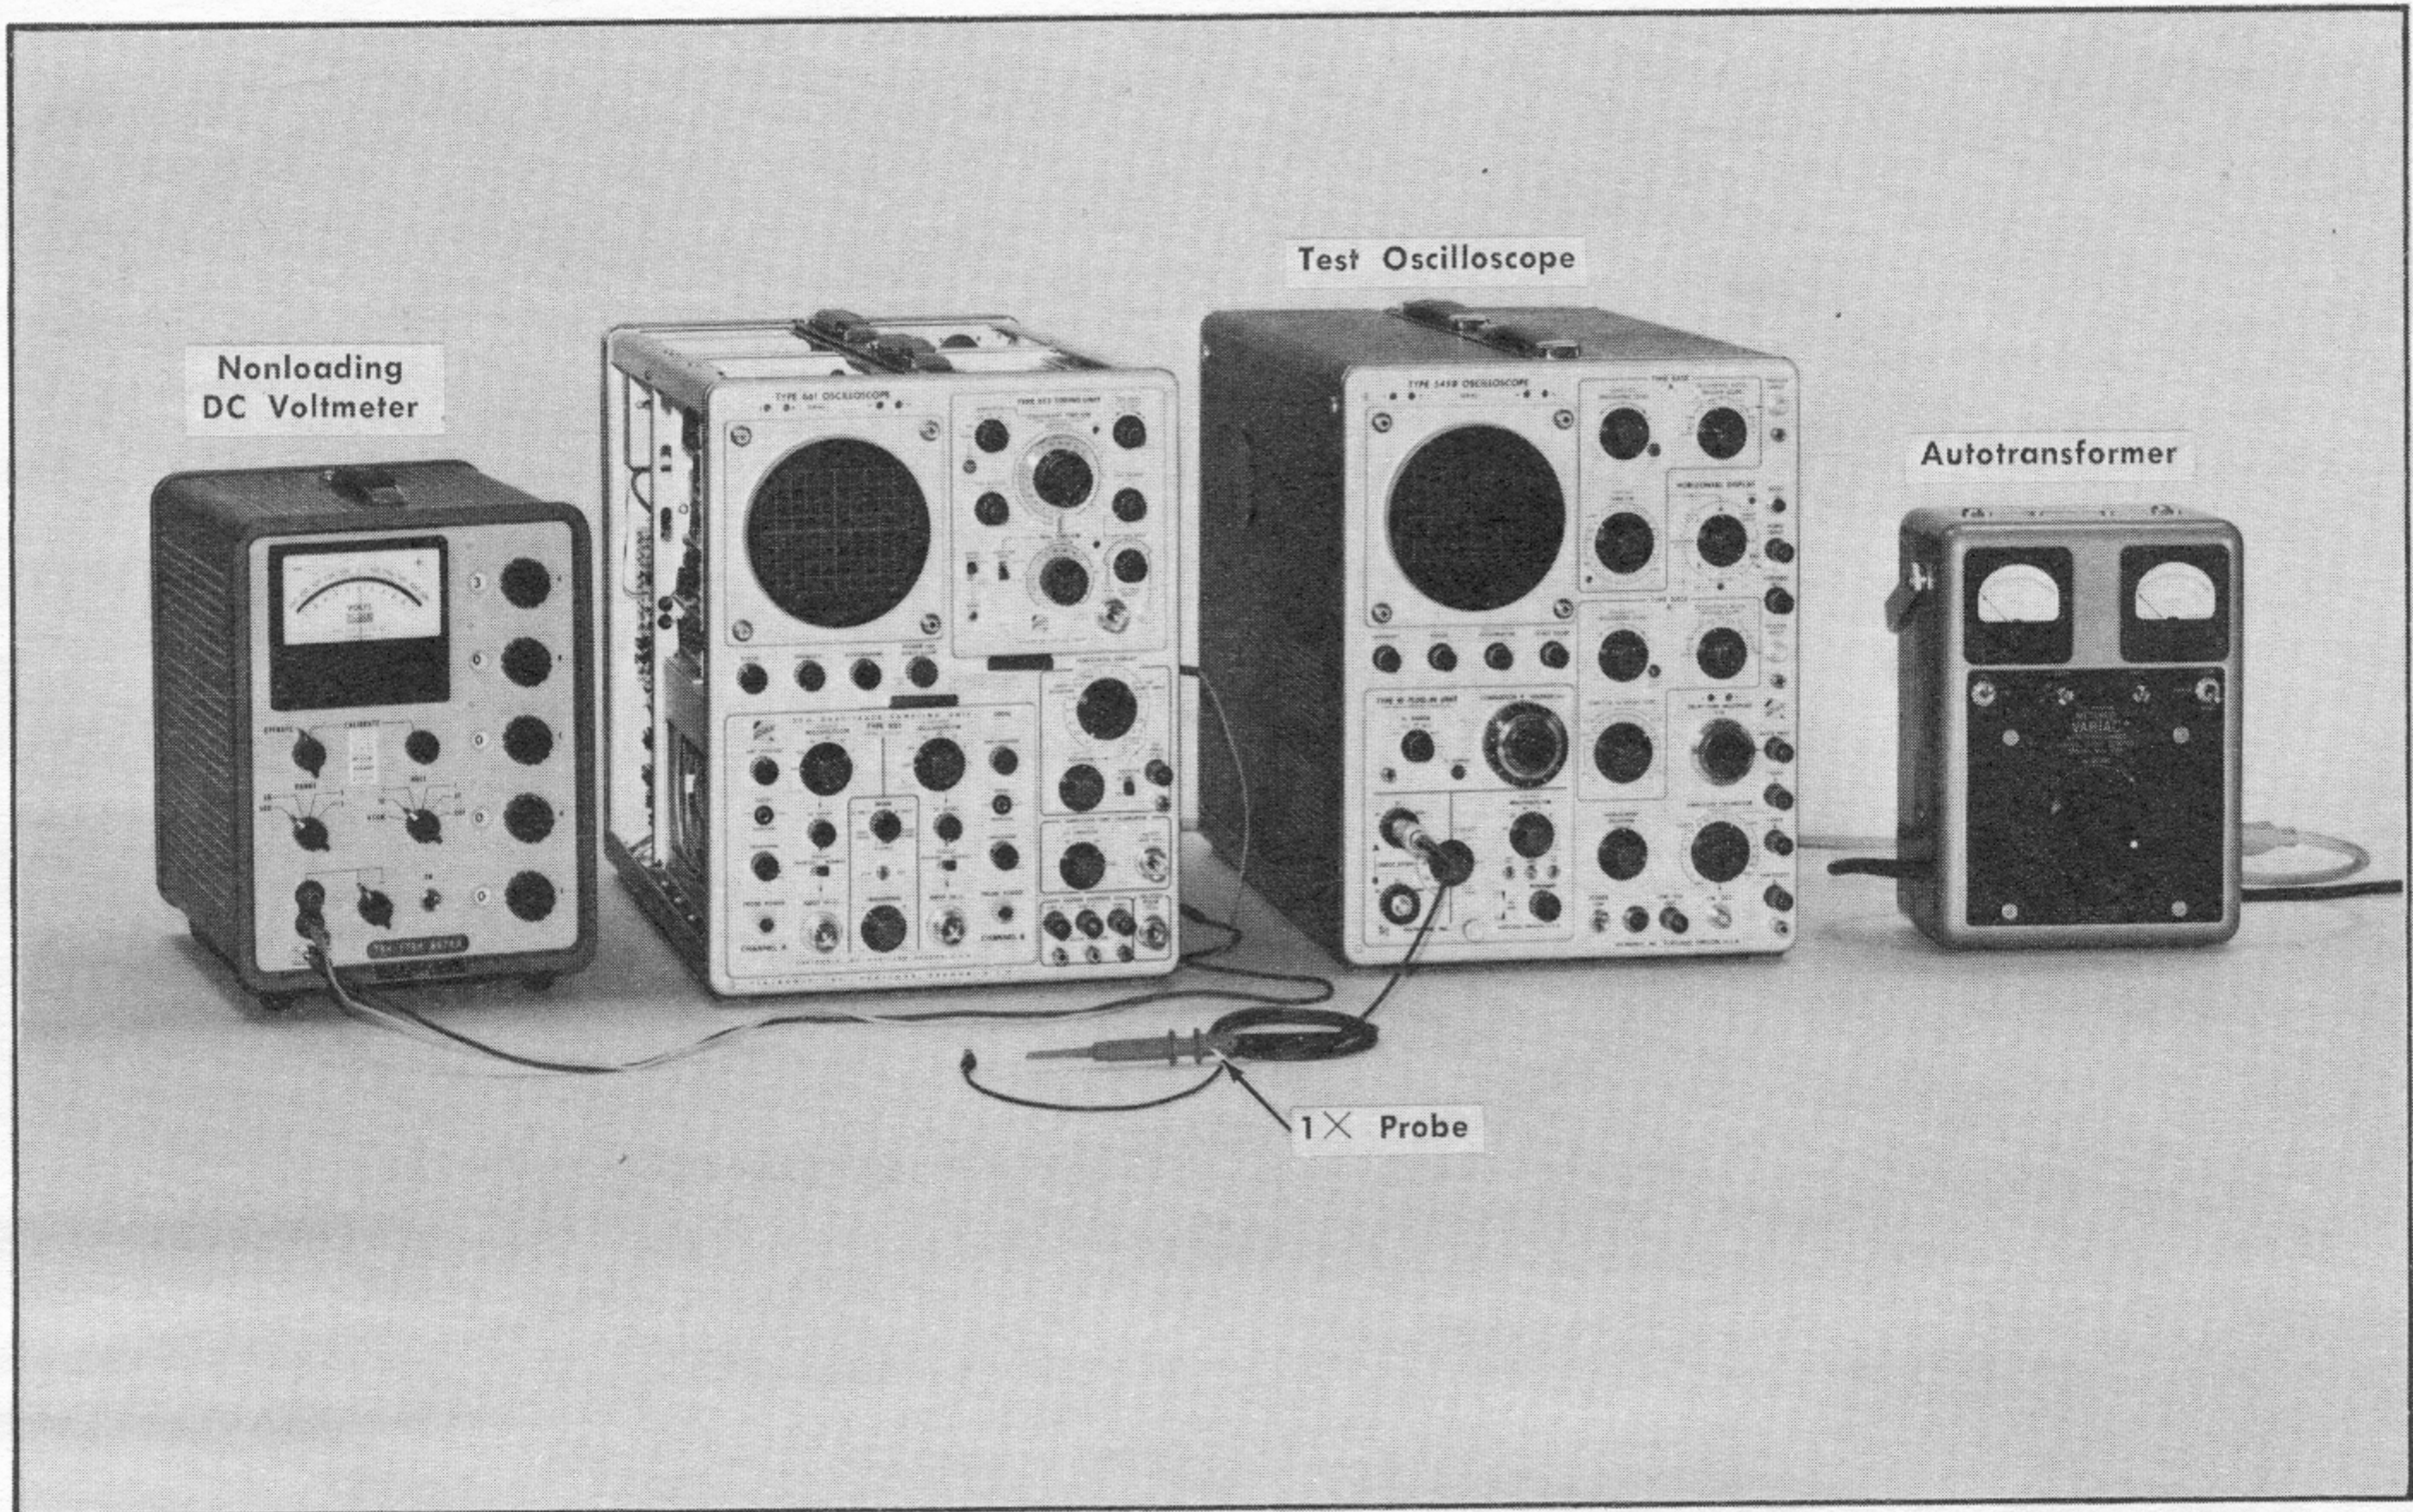
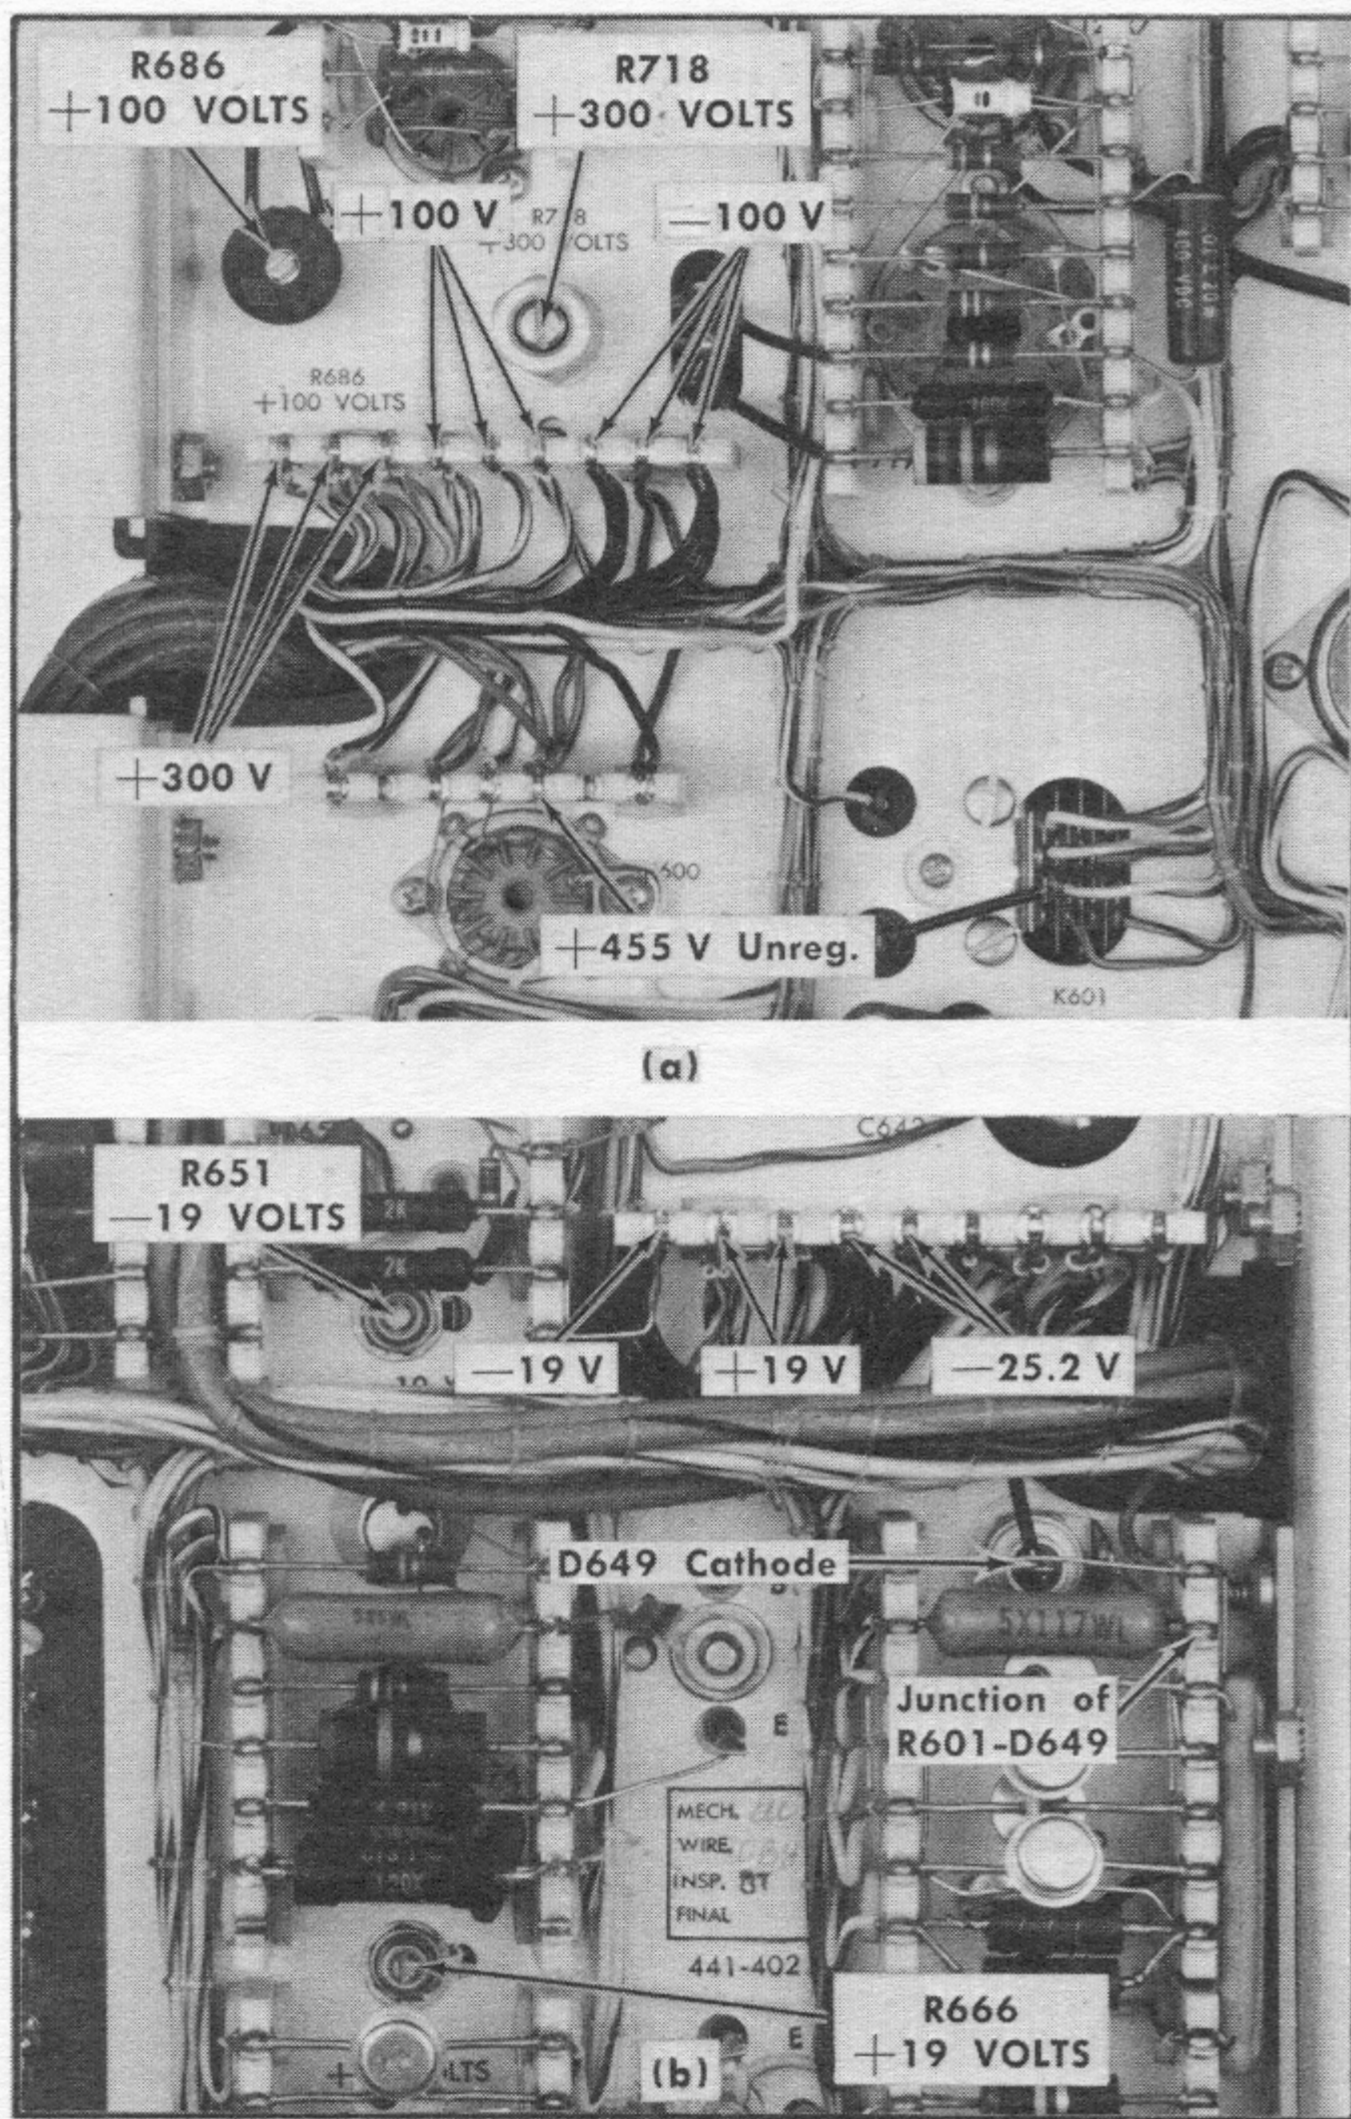

Fig. 6-3. Test equipment for checking the power supplies (steps 1 through 8).
Fig. 6-4. Power supply test points. (A) Right side of oscilloscope; (B) left side of oscilloscope.
1. Check or Adjust +300-Volt Power Supply ①
a. Use the equipment setup as shown in Fig. 6-3, and connect the nonloading DC voltmeter between a +300-volt test point and ground (right side of the oscilloscope). All power supply voltage test points are shown in Fig. 6-4.
2. Check or Adjust +100-Volt Power Supply ①
4. Check or Adjust the +19-Volt Power Supply ①
a. Connect the nonloading DC voltmeter between a +19-volt test point and ground (left side of the oscilloscope, Fig. 6-4).
6. Check or Adjust -19-Volt Power Supply ①
Connect the meter minus lead to the junction of R601-R649, and the plus lead to D649 cathode. See Fig. 6-4.
a. Equipment setup is shown in Fig. 6-3.